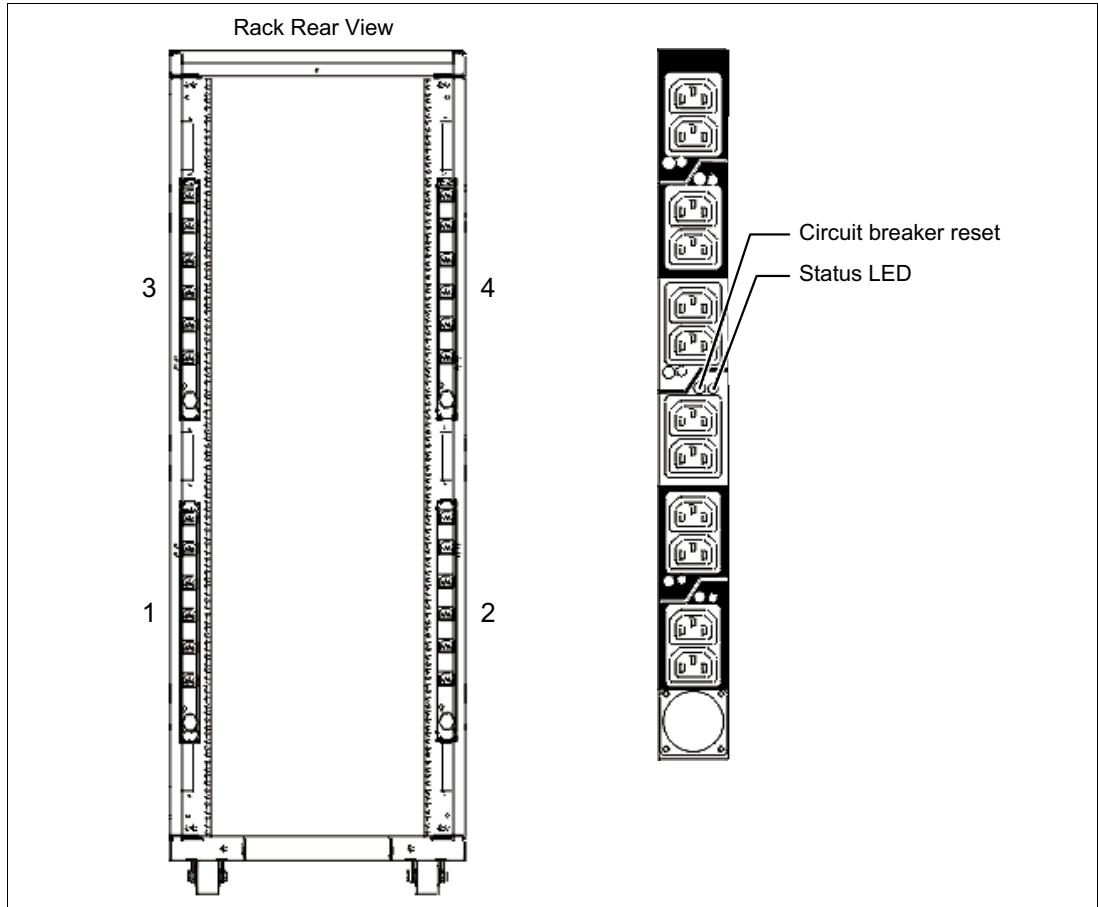

Figure 1-13 Power distribution unit placement and view
- ▶ Up to four PDUs can be mounted in the PDU bays (see Figure 1-13 on page 47), but others can fit inside the rack. For more information, see 1.9.7, “The AC power distribution unit and rack content” on page 46.
Four PDUs can be mounted vertically in the back of the T00 and T42 racks. Figure 1-13 shows the placement of the four vertically mounted PDUs. In the rear of the rack, two more PDUs can be installed horizontally in the T00 rack and three in the T42 rack. The four vertical mounting locations are filled first in the T00 and T42 racks. Mounting PDUs horizontally uses 1U per PDU and reduces the space that is available for other racked components. When mounting PDUs horizontally, the preferred approach is to use fillers in the EIA units that are occupied by these PDUs to facilitate proper air-flow and ventilation in the rack.